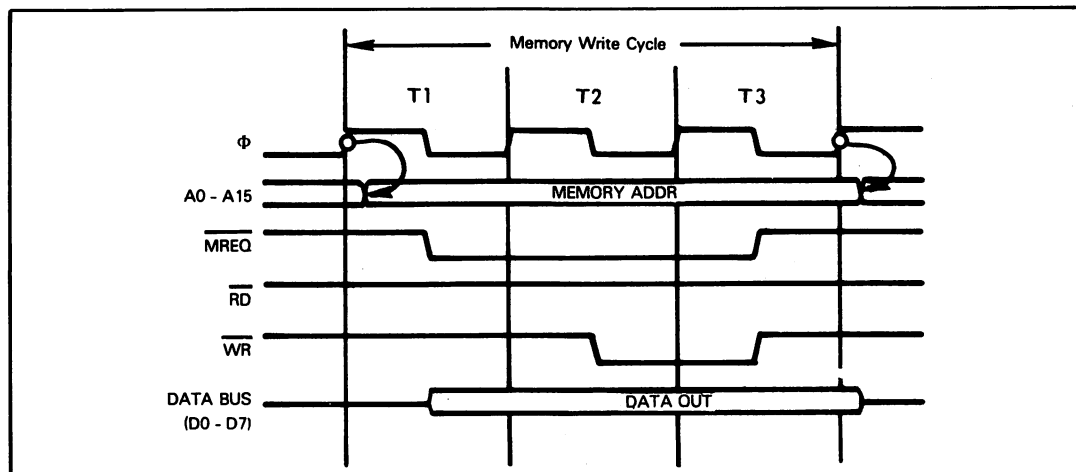

Figure 7-7. Z80 Memory Write Timing
**Figure 7-7 illustrates memory write timing for the Z80. The only differences between memory read and memory write timing are the obvious ones:**  $\overline{WR}$  is pulsed low for a write, and can be used as a strobe by memory interface logic to read data off the Data Bus.